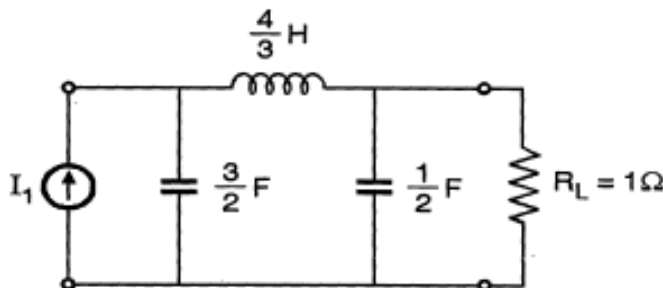

Figure 2
- c) Normalized third order Low pass filter is shown below in Fig. 2 4